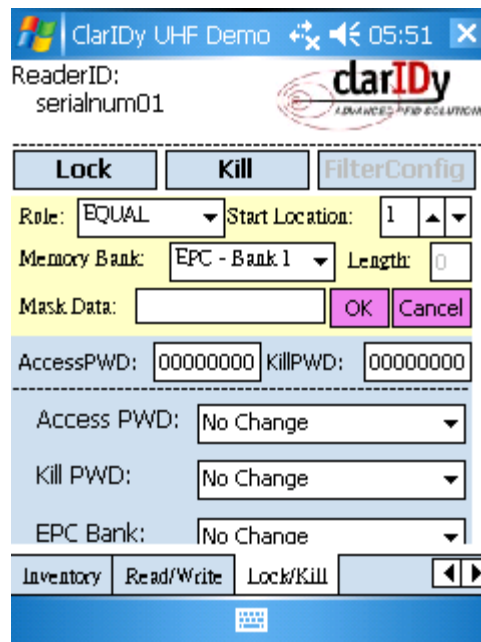

Figure 23
6. Click the “OK” button, as Figure 23”